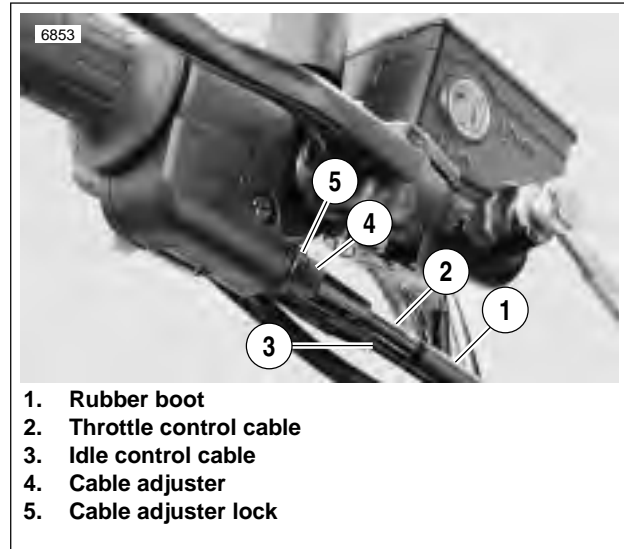

Figure 1-41. Throttle Control Cables
2. See Figure 1-41. Loosen cable adjuster lock (5) on each.
3. Turn adjusters (4) in direction which will shorten cable housings to minimum length.
5. Turn adjuster on throttle control cable (2) until throttle cam stop touches stop plate. Tighten cable adjuster lock on throttle control cable adjuster; release throttle control grip.
6. Turn handlebars fully to right. Turn adjuster on idle control cable (3) until end of cable housing just touches the cable guide.